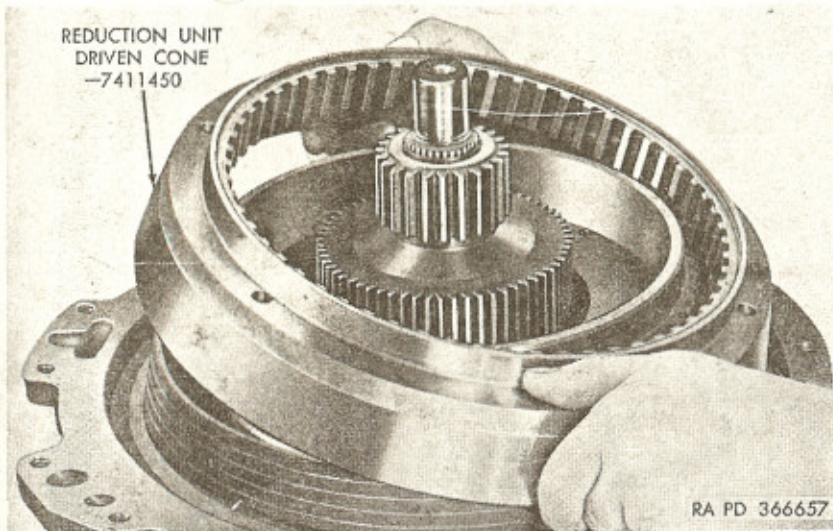

Figure 215. Installing reduction unit driven cone (303M).
k. Install reduction unit driven cone (fig. 215) on reduction unit clutch drum, aligning splines in clutch drum with splines in driven cone. Make sure cone is free on drum. Rotate until free sliding fit is obtained.